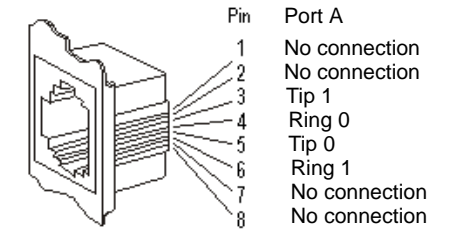

Figure 3. Analog Loop Start Connector Pinouts
Use the cable supplied with the board. See Figure 3 for pinout details for your board.
1. Plug one end of the cable into the RJ-45 telephone connector on the board (see Figure 3 to locate connector).